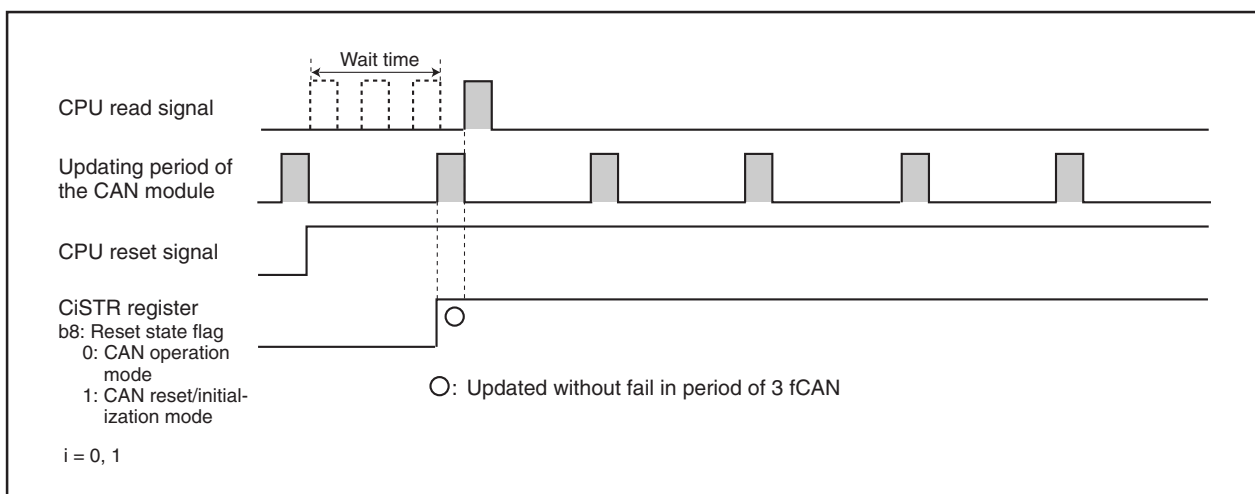

Figure 23.4 With Wait Time of 3 fCAN before CPU Read
- (a) There should be a wait time of 3fCAN or longer (see **Table 23.2 CAN Module Status Updating Period**) before the CPU reads the CiSTR register. (See **Figure 23.4 With Wait Time of 3 fCAN before CPU Read.**)